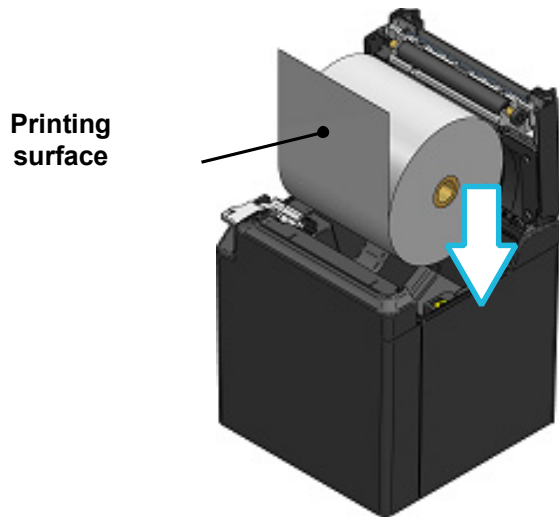
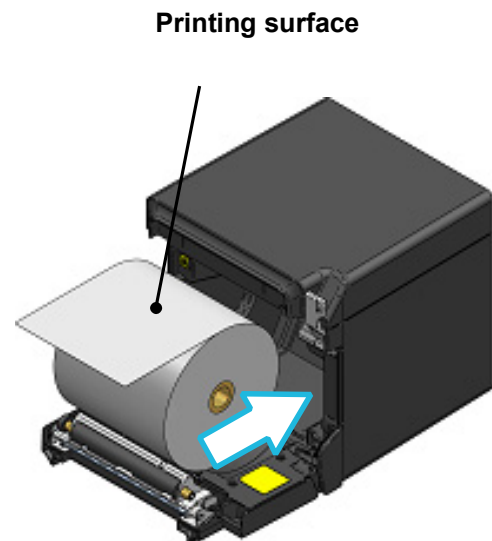

Figure 8-3 Thermal Paper Setting Direction (Top Eject)
Figure 8-4 Thermal Paper Setting Direction (Front Eject)
- (2) Take the glued end from the thermal paper.
- (3) Load the thermal paper into the paper holder. At the time, load the thermal paper direction as shown in Figure 8-3 and Figure 8-4.